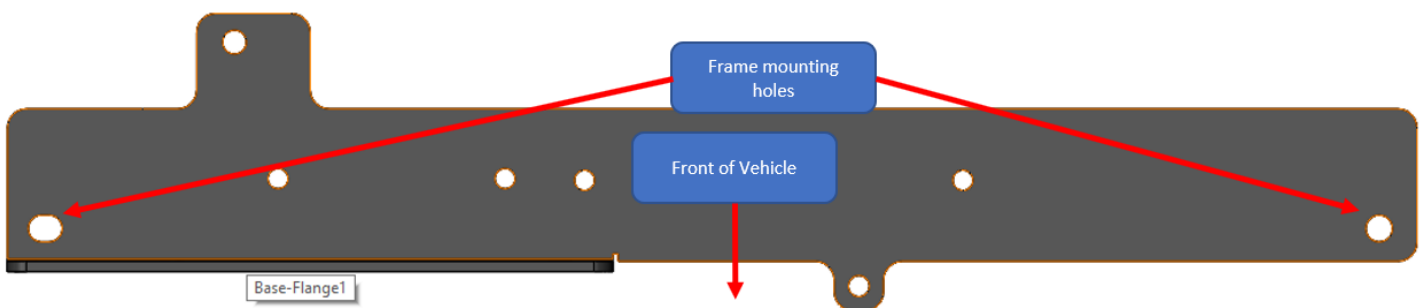

Figure 8
5. With the metal splash guard removed. Reinstall the replacement cross support bracket included with the heater kit. The replacement bracket mounts to the same bolt locations as the OEM version. Reuse the hardware removed earlier. See Figure 8.